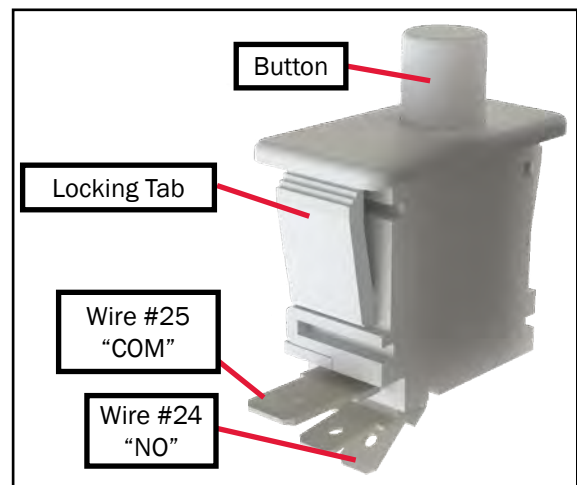

Figure 11
3. Disconnect the two yellow wires from the interlock switch noting that wire #24 is connected to the terminal labeled "NO" and wire #25 is connected to the terminal labeled "COM". Reference Figure 11.